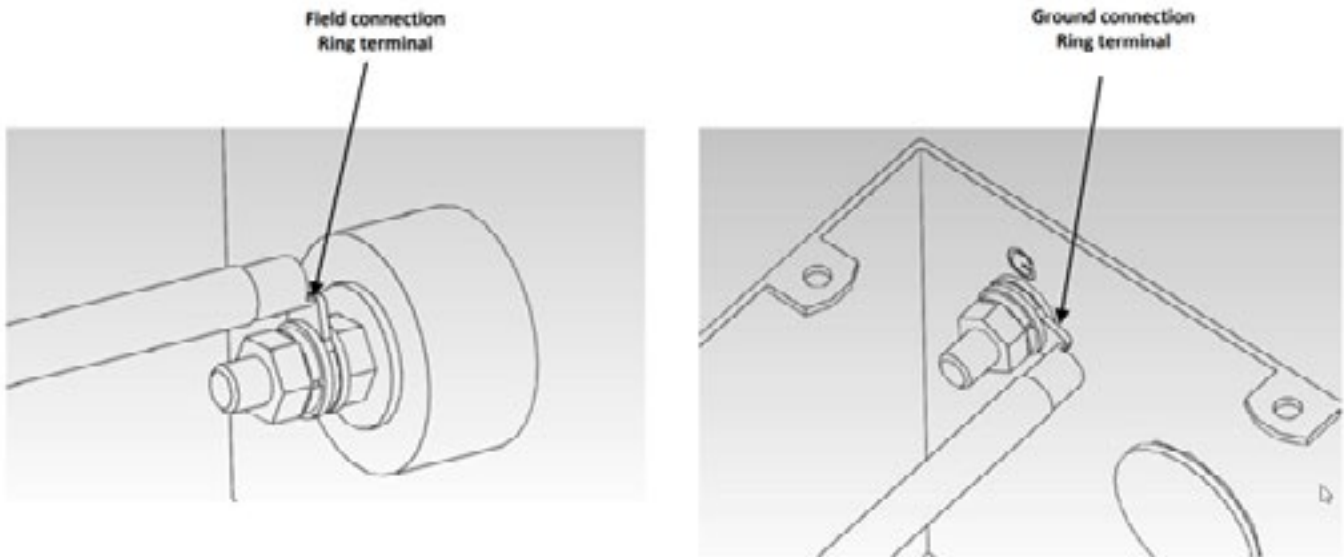

Figure 3: Ring Terminal Connections within EMI Filter
3. Remove loose hardware supplied on filter field terminal screws and install power cables to each terminal through a crimped or solder-type ring connector (not supplied) using the supplied hardware. See Figure 3.
4. Remove loose hardware supplied on the ground screw terminal marked with the Green label and install a ground wire identical in size and insulation rating to the grounded and ungrounded circuit supplied conductor, except it shall be colored Green or Green-Yellow. Use a crimped or solder-type ring connector (not supplied, see Figure 3). The ground wire shall be installed as part of the circuit that supplies the filter.